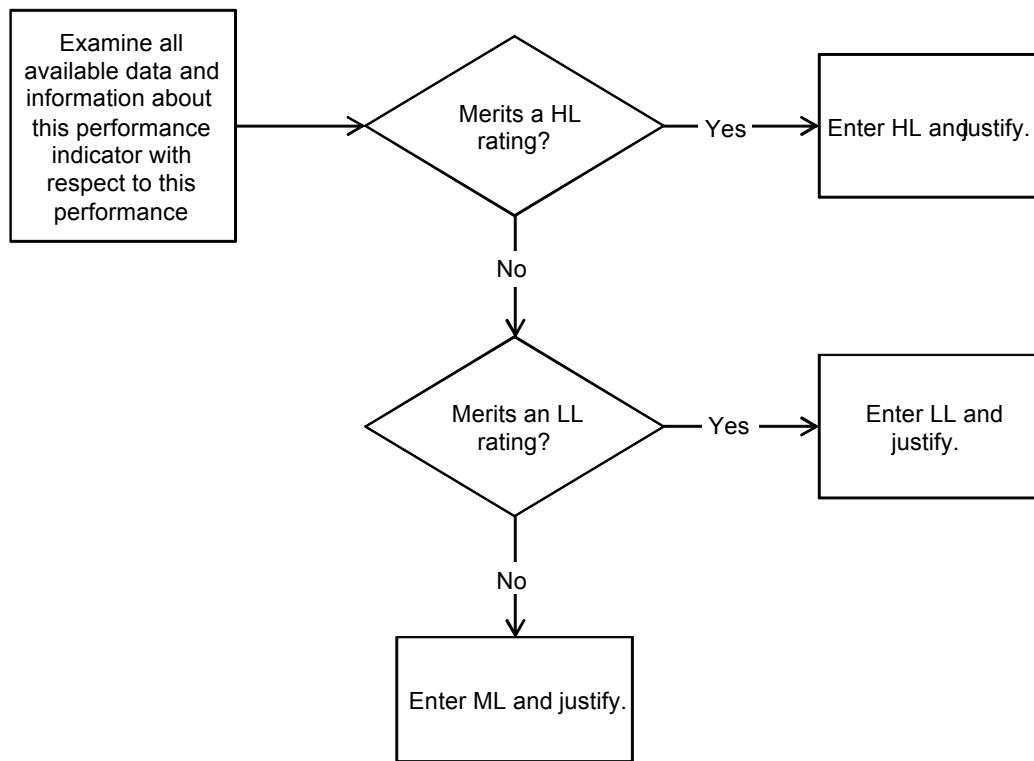

Figure 6. Decision flow for assigning ratings to performance indicators
3. When determining which rating to apply to each contributing indicator, first see if an HL rating is appropriate. If a HL rating is not appropriate, next see if an LL rating is appropriate. If neither HL nor LL applies, select the ML rating. This process is summarized in Figure 6.